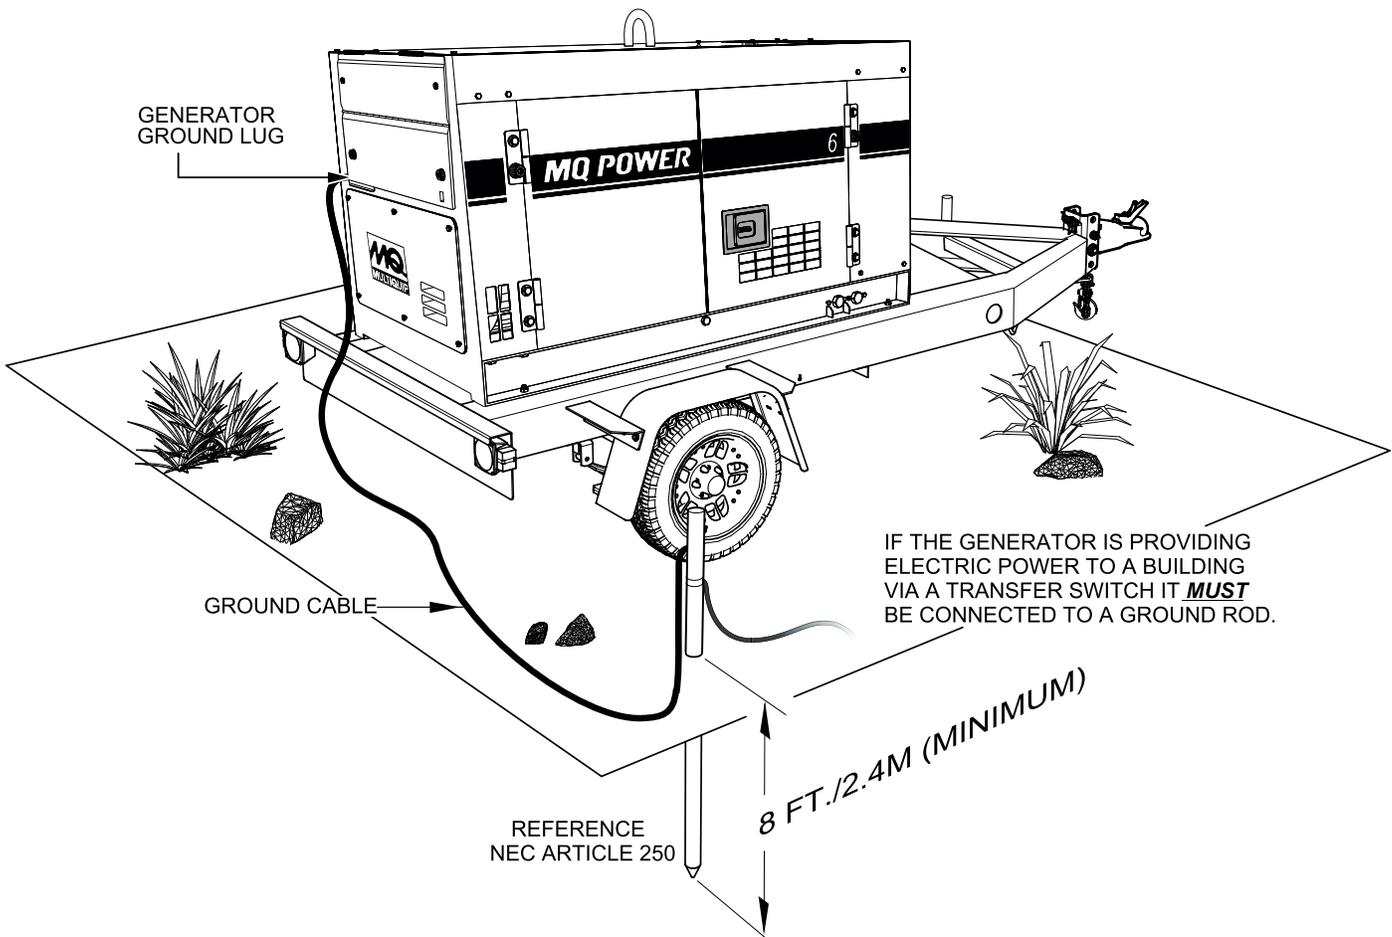

Figure 3. Generator Grounding
Connect one end of the ground cable terminal to the generator ground point (Figure 3). Connect the other end of the ground cable to a suitable earth ground (ground rod).
The Occupational Safety and Health Administration (OSHA) and the National Electrical Code (NEC) recommend that if the generator is providing electrical power to a structure (home, office shop, trailer, or similar) it **must** be connected to a grounding electrode system, such as a driven ground rod (Figure 3).
If applicable, to guard against electrical shock and possible damage to the equipment, it is important to provide a good **EARTH** ground (Figure 3).
2. When grounding of the generator (Figure 3) is required, connect one end of the ground cable to the ground lug on the generator. Connect the other end of the ground cable to the ground rod (earth ground).
8. **Ground Terminal** — This ground connection terminal **must be used at all times**. Connect a ground cable between this terminal and a ground rod. Reference grounding section (Figure 3) in this manual for more detailed information.